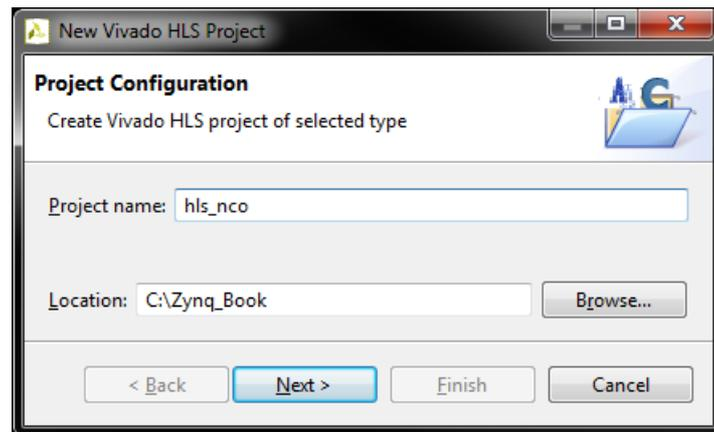

Figure 4.32: Vivado HLS New Project Wizard
- (c) Select the option to **Create New Project** and the *New Vivado HLS Project Wizard* will open, as in Figure 4.32.
Ensure that the options match those in Figure 4.32, and click ***Next***.